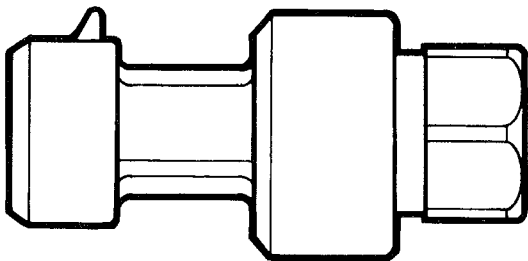

**Fig. 9 — Refrigerant Pressure Transducer**
**TRANSDUCER TROUBLESHOOTING** — The NB,NP control system uses transducers to measure pressures around the system. See Table 28 for pressure transducer locations and Fig. 9 for typical refrigerant pressure transducer. If a transducer is suspected of being faulty, check the voltage to the transducer. The refrigerant pressure transducer supply voltage should be 5 vdc  $\pm$  0.2 v. These transducers convert the measured refrigerant pressure to a voltage. This voltage is then evaluated as a ratio to the 5 vdc  $\pm$  0.2 v supply voltage. Read the voltage on channel 12. If the check filter switch is open, then 5 v is used for the ratio. All other transducers (BP, SP, and OAC) require 24 vac. If the supply voltage is correct, compare the pressure reading displayed on the HSIO keypad and the pressure obtained on a calibrated pressure gage.